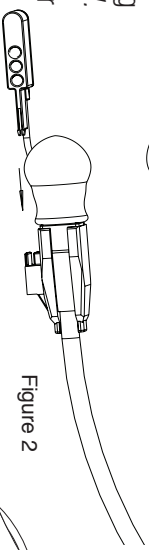

Figure 2
3. Insert the light component into microphone adapter until tabs click—*see Figure 2*.